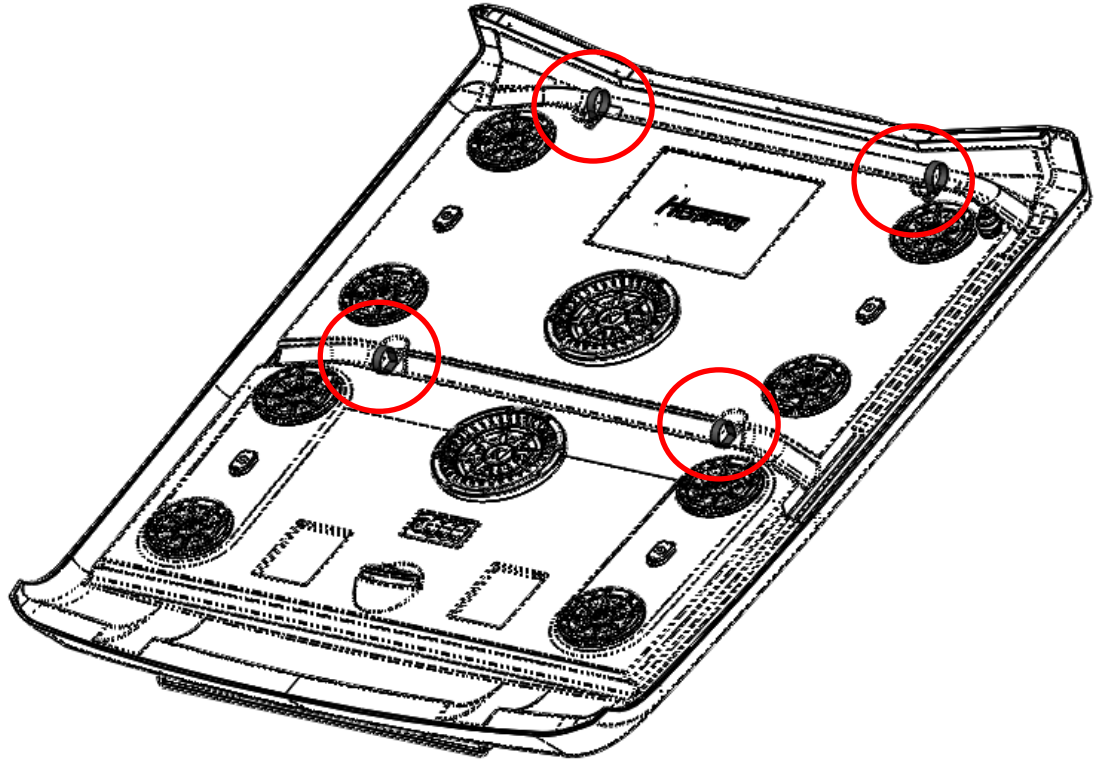
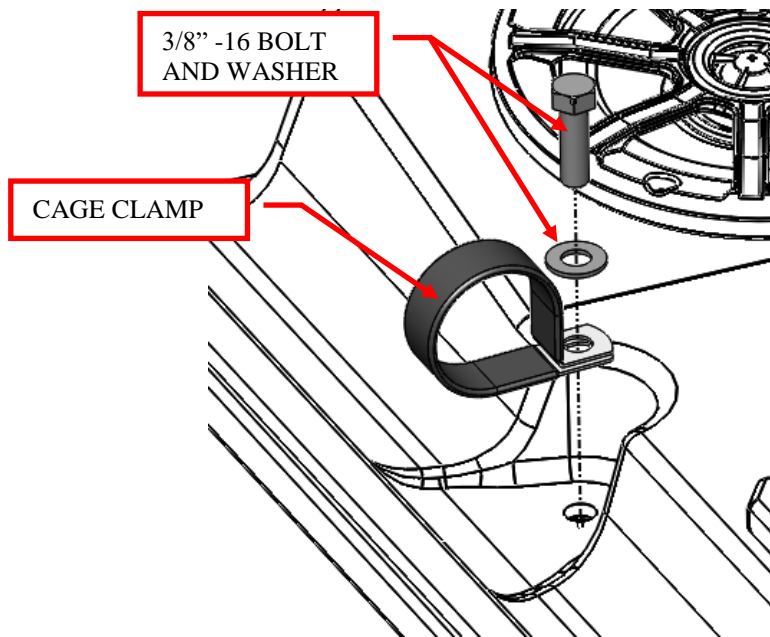

Figure 2: Remove the 2 clamps from the top.
Figure 3: Close up of cage clamp hardware.
1. Remove the cage clamps and 3/8”-16 bolts and washers that come pre-installed on the top. Save the hardware for installation. See Figure 2 and Figure 3.
6. Slide the loop clamps into position so they line up with the threaded holes in the top. For all clamps, install the 3/8-16 bolt with washer through both clamp tabs and into the threaded hole in the top. Use blue Loctite 243 (medium strength) and torque the bolts to 25 ft.*lbs. See Figure 3.